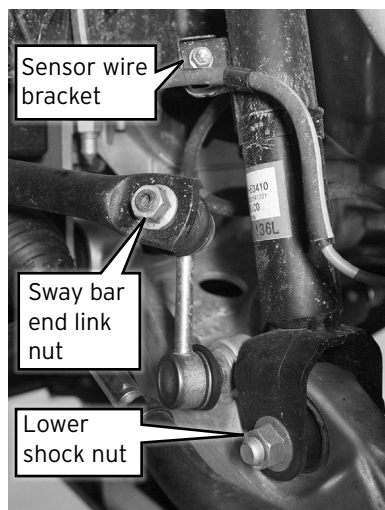

Fig. 1
1. Disconnect the end link from the sway bar (Fig. 1). Remove the sensor wire bracket from the shock.
2. With the hub supported, remove the lower shock bolt and nut (Fig. 1).